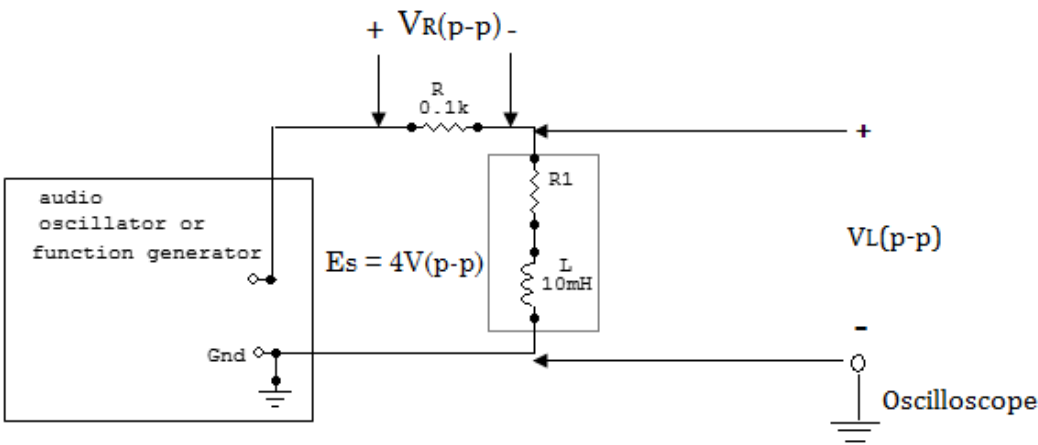

FIG 8.1
- (c) Interchange the positions of R and L in Fig 8.1 and measure $V_{R(P-P)}$ for the same range of frequencies with E_s maintained at $4V_{(p-p)}$, insert the measurements in Table 8.3.